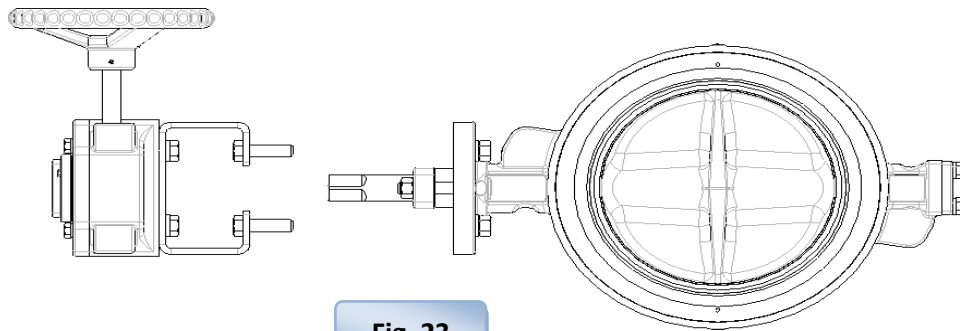

Fig. 23
- Place the valve on a working bench or other suitable working surface with the drive shaft side of the valve up. Remove the actuator and actuator bracket from the valve. (Fig.23)